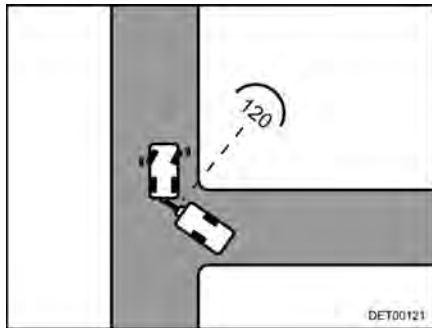

Fig. 15 Approach
- As soon as both vehicles are at an approximate angle of 120° to each other, come to a stop (Fig. 15).